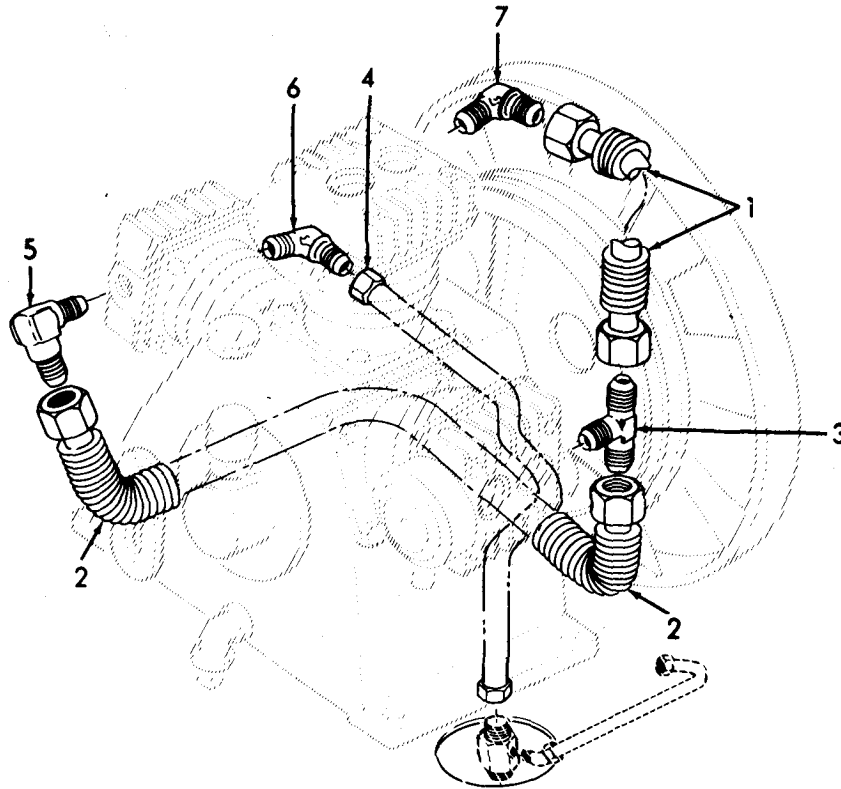

Figure 3-26. Tube Assemblies, Installation.
e. *Installation.* (Refer to Figure 3-26).